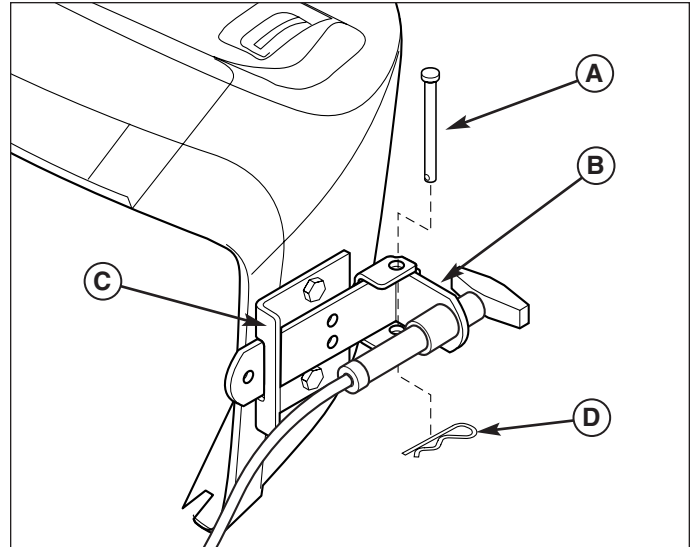

Figure 22. Install Remote Deflector Control
3. Install the remote deflector control handle (B, Figure 22) in the mounting bracket (C) and secure with a clevis pin (A) and hair pin clip (D).